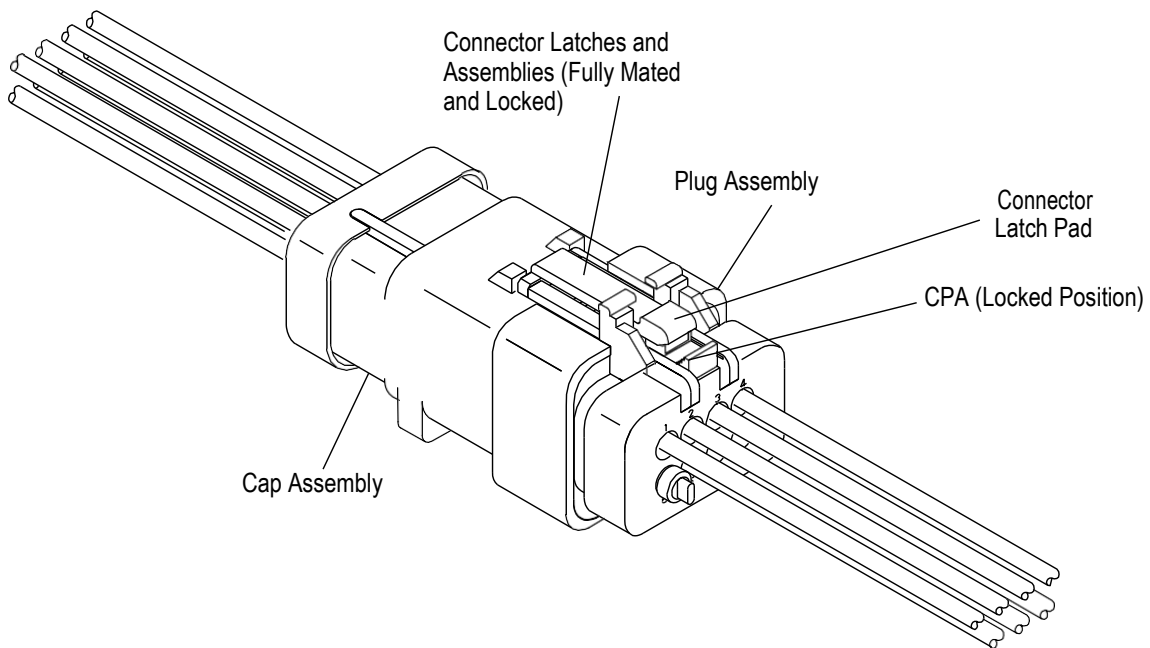

Figure 7
7. By pushing the CPA fully toward the plug housing, it can be slid into the locked position in which it slides under the connector latch pad and indicated by an audible and tactile “click”. See Figure 7.